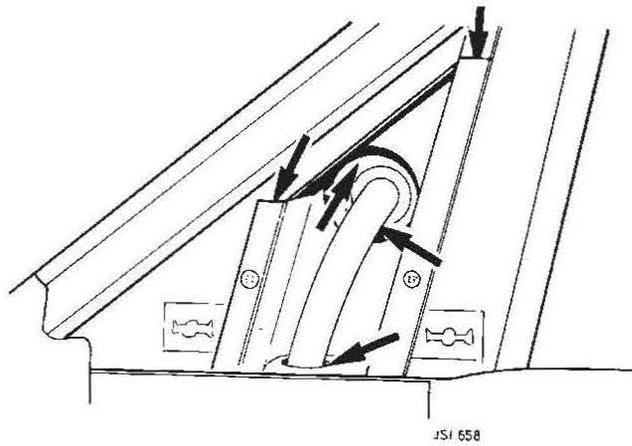

FIG. 5
- 5 Door mirror mounting to window frame LH and RH doors - Fig 5
- 1 Remove the plastic cover to expose the area where the sealant should be applied (Fig 5).